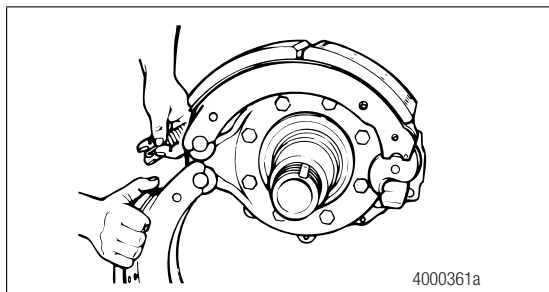

Figure 5.18
- Place the upper brake shoe into position on the top anchor pin. Hold the lower brake shoe on the bottom anchor pin. Install two new brake shoe retaining springs. Figure 5.18.